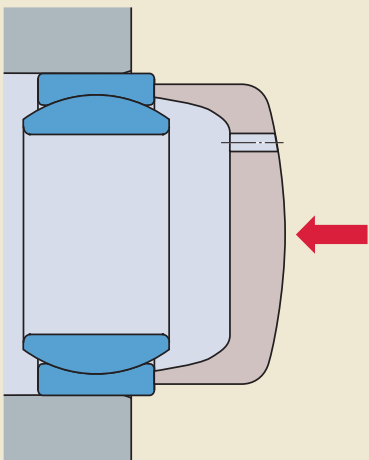

Fig. 3
- a dolly having two abutment surfaces (→ **fig. 3**) for simultaneously mounting the bearing on the shaft and in the housing